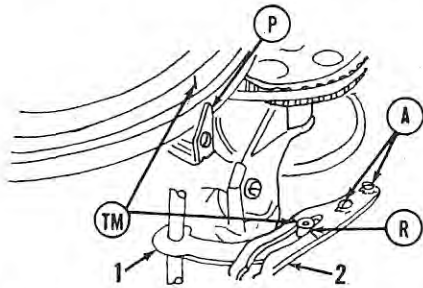

Fig. Mc109 — Schematic view of spark advance mechanism used on all three cylinder models. Refer to Fig. Mc110 for throttle mechanism.
**All Three Cylinder Models:** Refer to Figs. Mc108, Mc109 and Mc110. First adjust the distributor timing by using a test light such as that shown in Fig. Mc108. Remove the spark plugs and turn the flywheel until "TDC" timing mark (TM—Fig. Mc109) is aligned with timing pointer (P) as shown. Loosen the two screws (A). Make sure the contact points are properly adjusted to 0.015 as outlined in IGNITION SYSTEM paragraph. Attach one clip of the test light to the primary terminal of the distributor, ground the other clip, then move the breaker plate back and forth to the point where the test light bulb just goes out. Position the spark advance cam (2) and cam roller (R) so that roller is centered in the timing marks (TM), then tighten the screws (A). To